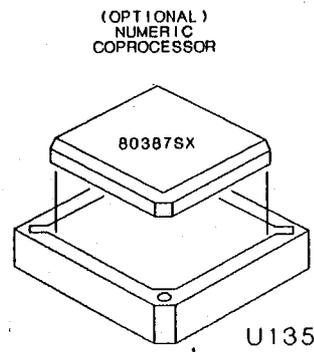

*Figure 5-9. Installing Memory Modules*
7. Before installing new memory modules, note the positioning and locations of the factory-installed memory modules, as shown in Figure 5-8. Refer to Figure 5-9 and the following procedure to install and remove memory modules.